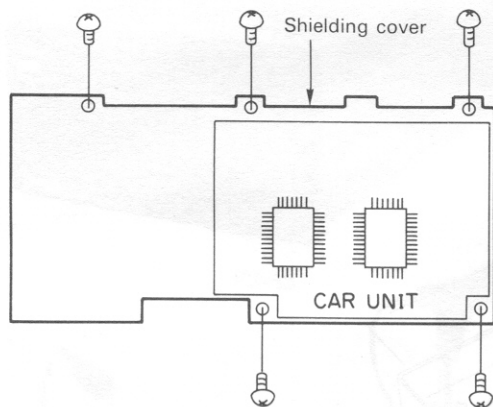

Fig. 3
3. Remove the shield cover of the PLL unit. (Fig. 3)